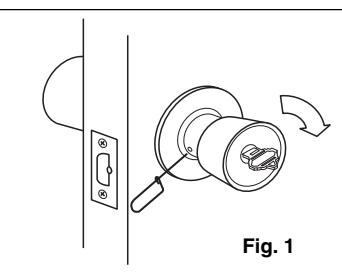

Fig. 1
3. Pull knob assembly from lock assembly. (Fig. 1)